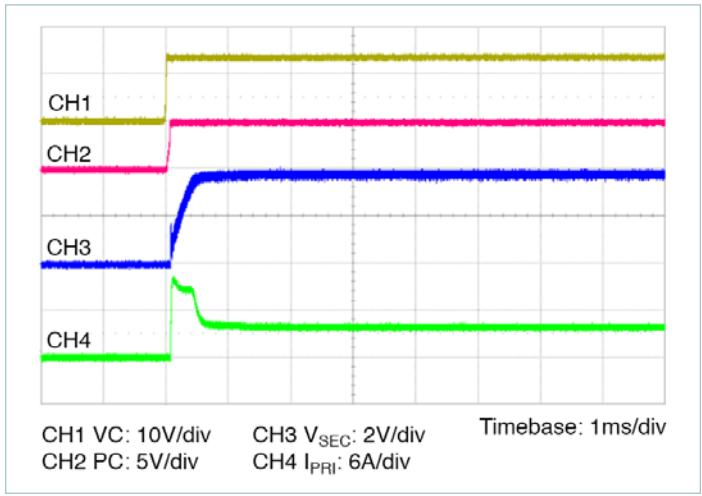

Figure 14 — Start up from application of  $VC$ ;
- Stand-alone operation (VC applied after VPRI): In this case the VTM secondary will begin to rise upon the application of the VC voltage (See Figure 14). The Adaptive Soft Start Circuit may vary the secondary voltage rate of rise in order to limit the inrush current to its maximum level. When starting into high capacitance, or a short, the secondary current will be limited for a maximum of 1200µs. After this period, the Adaptive Soft Start Circuit will time out and the VTM module may shut down. No restart will be attempted until VC is re-applied or PC is toggled. The maximum secondary capacitance is limited to 9100µF in this mode of operation to ensure a successful start.